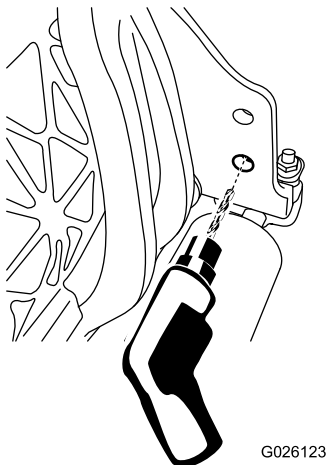

**Figure 4**
1. Remove the center, grass-shield bolt (Figure 4).
2. Install the target plate to the top of the cutting unit using the bolt that you removed previously (Figure 4).